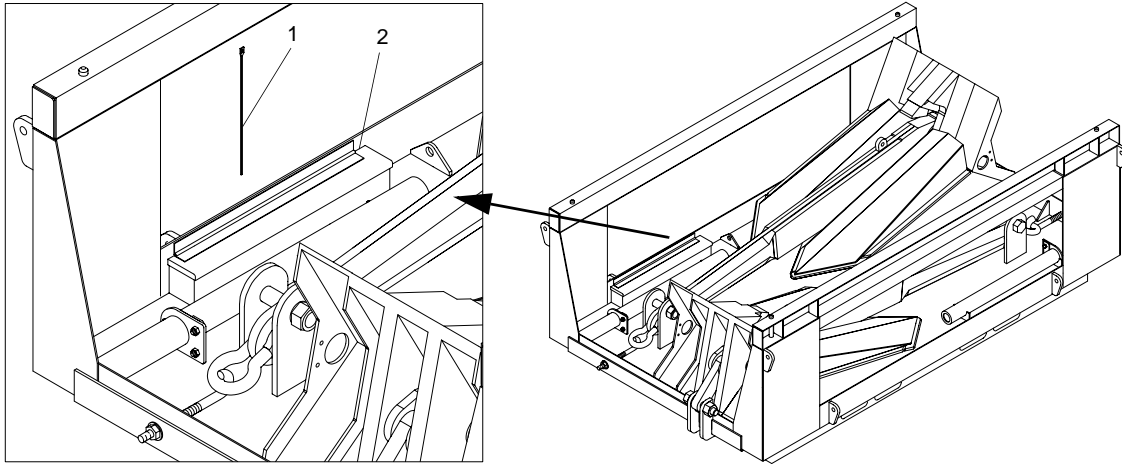

Figure 23. Plastic Cable Tie Stowage
11. Place two plastic cable ties (figure 23, item 1) in each anchor pallet toolbox (figure 23, item 2).
- a. Remove hardware from pallet toolbox (figure 23, item 2).